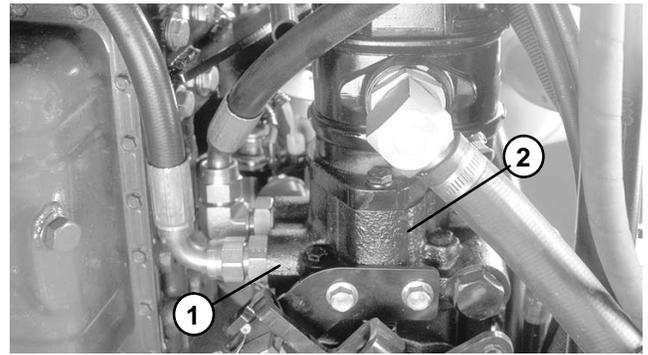

Figure 29
5. Disconnect hose from the lower hydraulic fitting on the engine side of the hydrostat (Fig. 29).